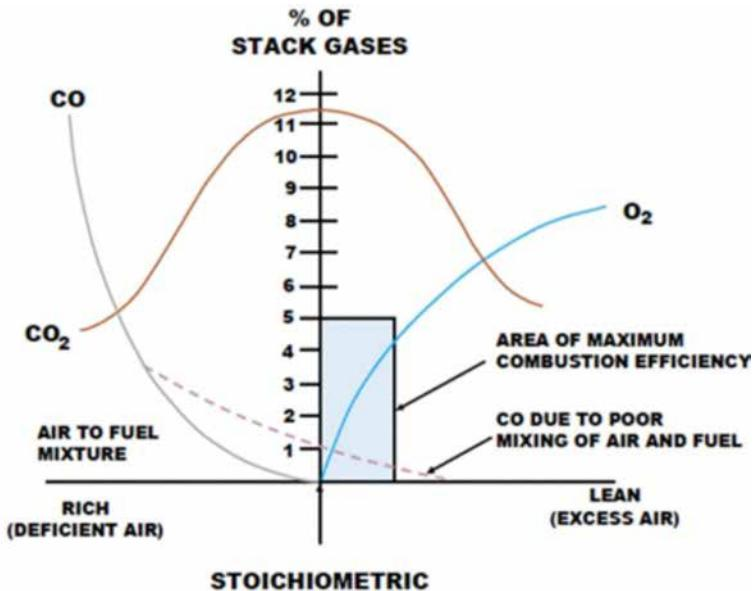

Figure 2: Ideal stoichiometric combustion point for gas fuels.
Using a generalised combustion equation, the point where all oxygen is consumed and all fuel burned is defined as the stoichiometric point (SP) (Figure 2)⁽³⁾. This can be seen from the equation below –